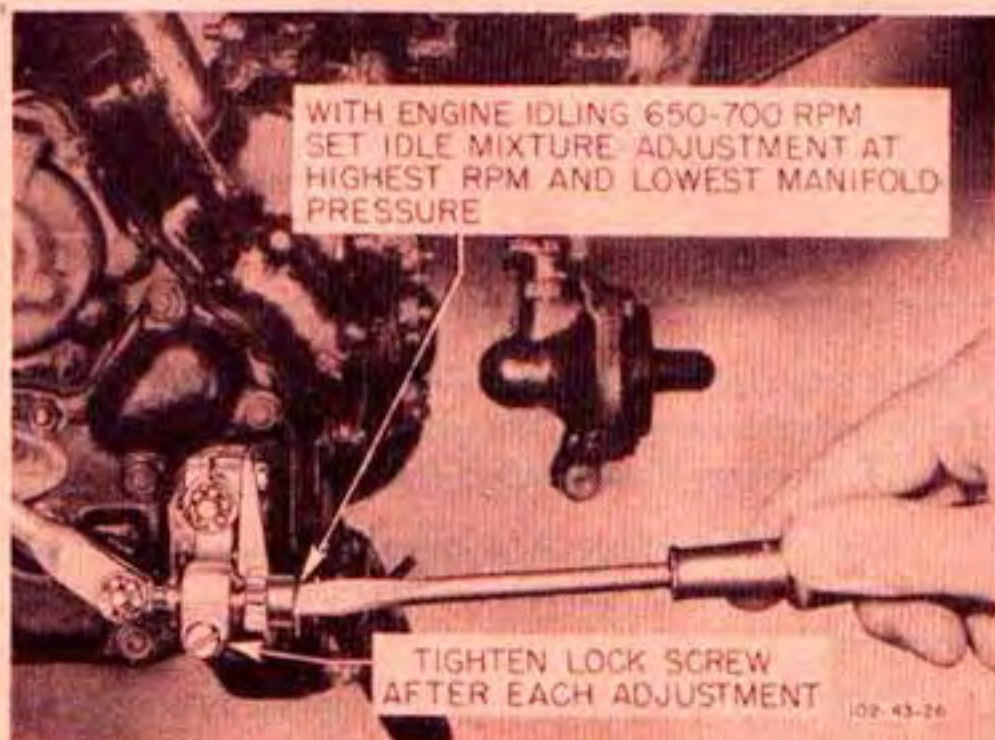

Figure 242—Idle Mixture Adjustment
d. With the idle mixture adjustment set in the notch giving the best operation, reset idle speed adjustment to return idling rpm to 650-700. (See figure 242.)